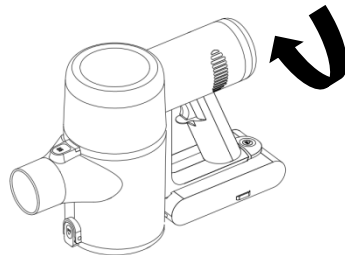

Figure 16
1. Rotate the air outlet cover counterclockwise to remove the HEPA filter from the main unit (Figure 16).